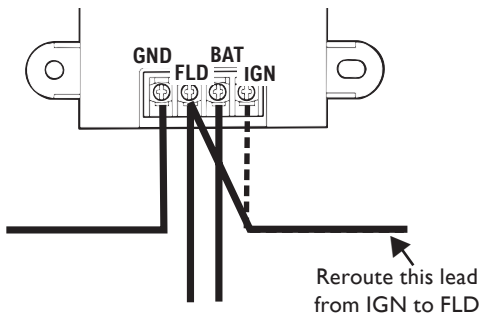

Figure 3 – 50-VR Regulator Modification
- 50-VR regulator – see Figure 3. Disconnect IGN lead at IGN terminal on regulator and reconnect to FLD terminal on regulator. Torque screw to 1.4 – 1.7 Nm/12 – 15 lb. in.